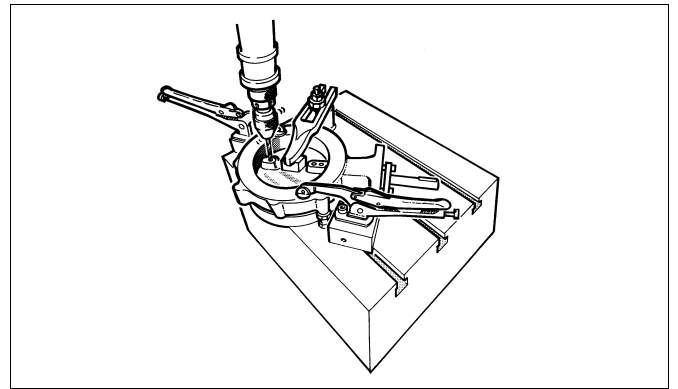

Fig. 13. Drilling the pins
- ❑ Remove the clamp ring (2) and seat ring (4) according to section 5.4.
- ❑ Set the valve horizontally on a sturdy surface so that the flat side of the disc lays against the surface, see fig. 13.